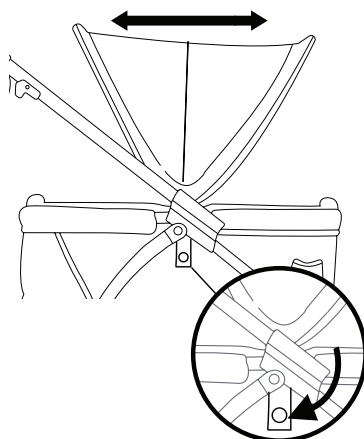

Fig. 6b
- **To open the canopy:** Behind the main fold mechanism use the strap and snap closure to anchor the canopy. Firmly spread out both sides of the canopy (Fig 6b).
8) • Close the canopy by reversing (Fig. 6b).